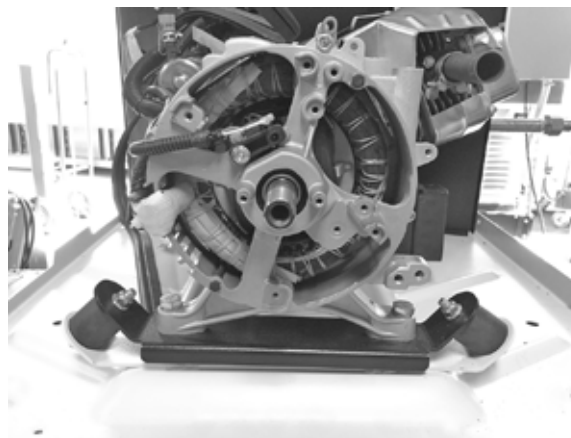

Figure 128.
- b. Remove the bearing carrier mounting bolts. Refer to Figure 128, 129 & 130.